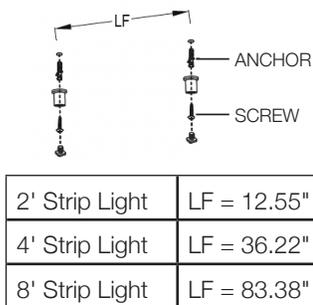

Fig. 7
1. Drill holes in the ceiling and insert the hardware (Fig. 7).